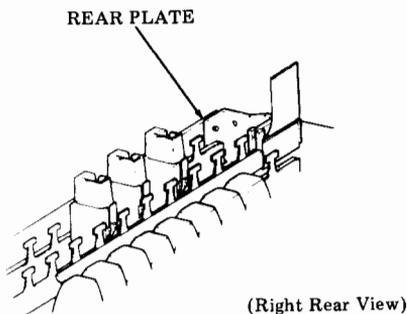

Fig. 22—Cable Removal
- (g) Remove rear plate (Fig. 22).
- (h) Slide cable to the right until it clears the circuit card. Remove through opening between channels (Fig. 22).